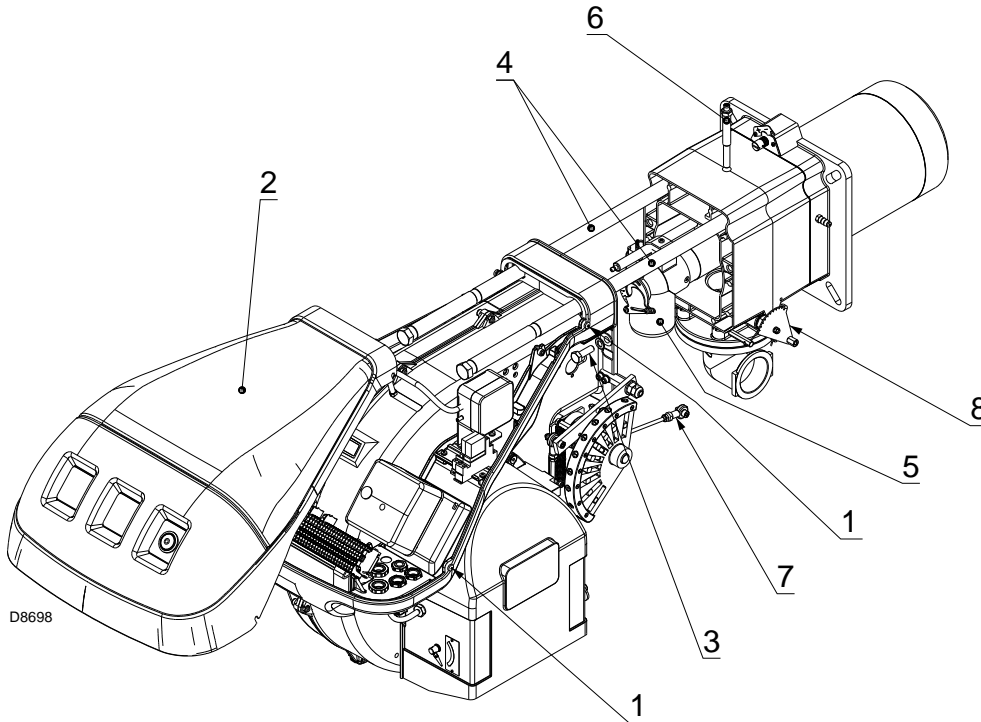

Fig. 38
Check the gas outlet holes for the ignition phase (in the distributor of the combustion head) are free of impurities or rust. If in doubt, disassemble the elbow 5)(Fig. 38).
- Loosen the screws 1) and remove the hood 2)(Fig. 38).
- Replace the screws 3)(Fig. 38) and carefully pull the probe and electrode cables out until they are slightly taut.